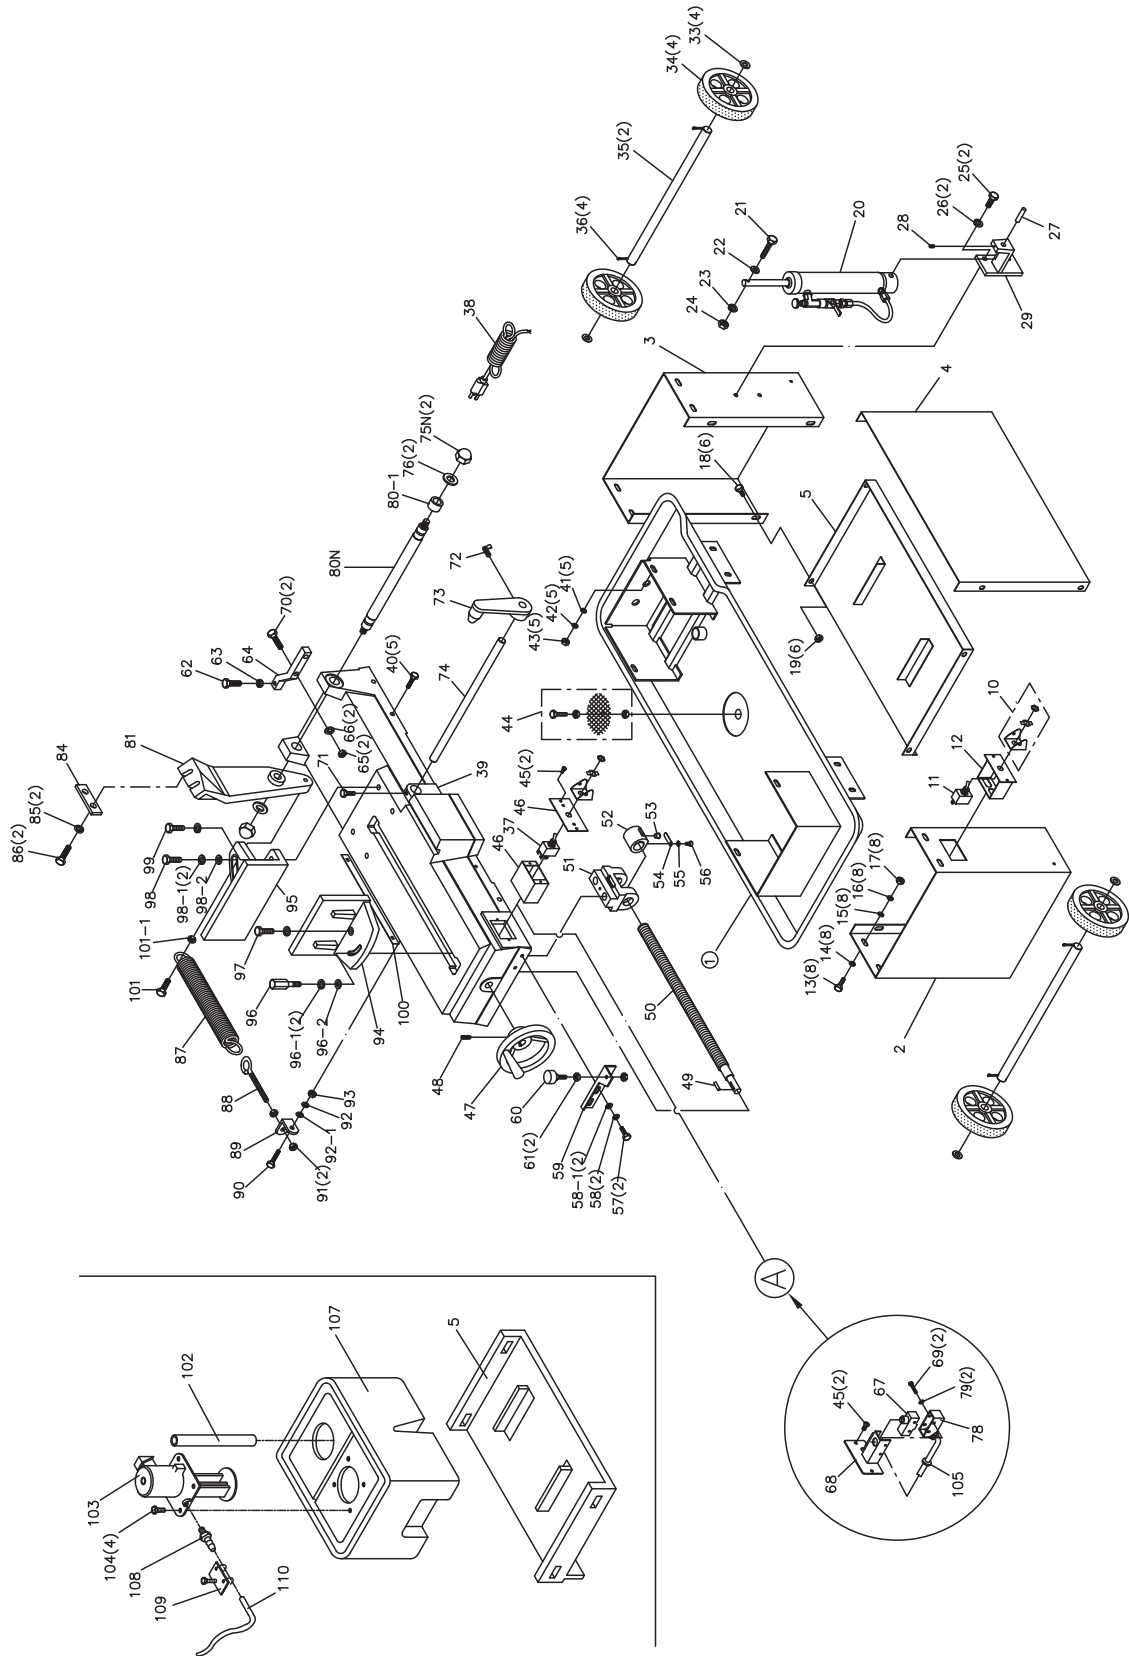

Figure 9 — Replacement Parts Illustration
- Determining the proper feed is largely a judgement based on experience. The feed is usually determined during the cutting operation. Before the cutting begins, the blade should be off the work and the head should be held in position by closing the knob on the feed regulator (Figure 9, Ref. No. 20).
Refer to Figure 9.